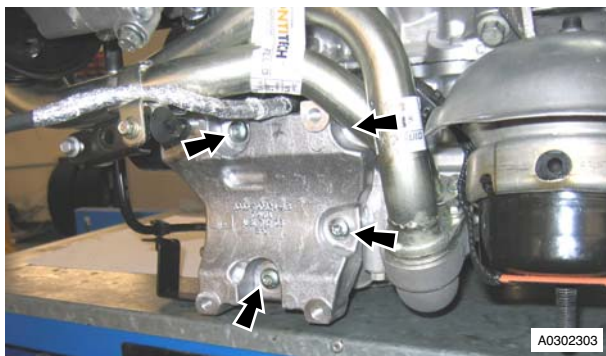

Figure 12
22. Remove Torx bolts (x4) securing A/C compressor mounting bracket to engine bedplate and sump. Remove bracket (see Figure 12).